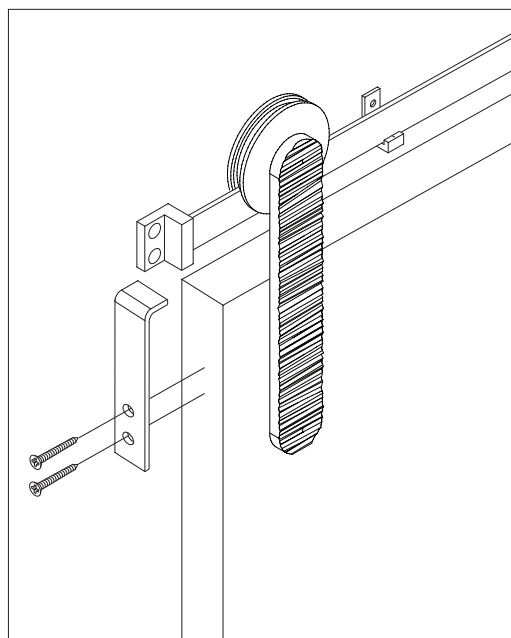

Figure 16
22. Install the bracket to the door edge with 2 phillips screws (provided) using a drill with a phillips bit. (Figure 16).